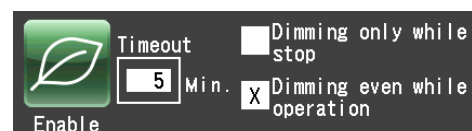

Fig. 3-4-5 (4b) Dialog box that appears when dimming backlight mode is enabled
- Pressing  min. when the dimming backlight mode is enabled opens the screen shown in Fig. 3-4-5 (4c) that allows you to set the time when the dimming backlight mode will be engaged. You can set a time between 1 and 180 minutes in one minute increments.
- Touching the screen in dimming backlight mode will return normal brightness to the screen adjusted in step (1).